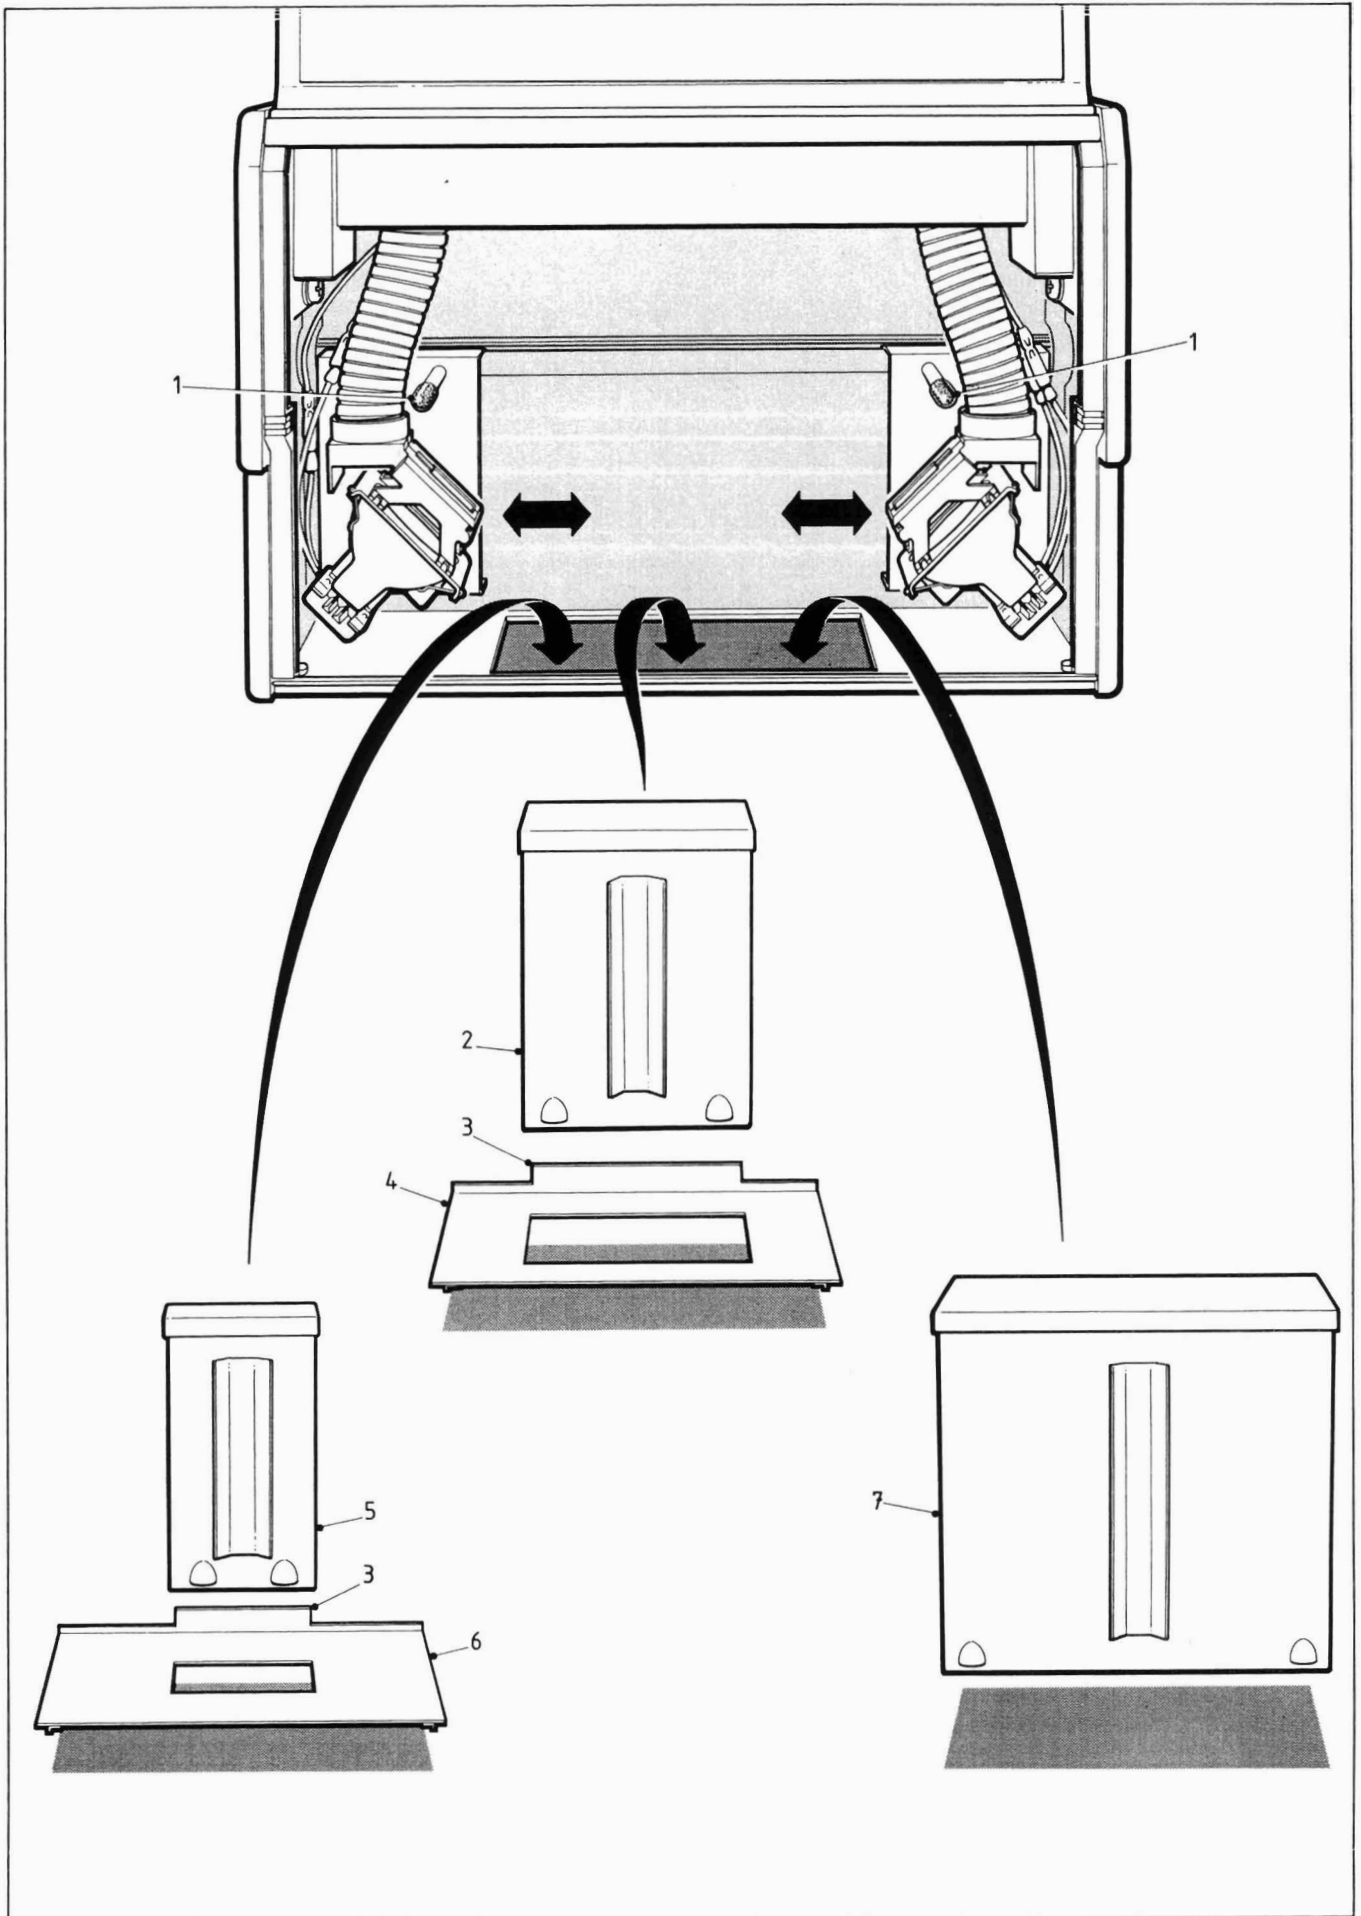

Figure 2.2
See figure 2.2.
- 3 Slide both lampholders sideways away from the light mixing box, using the posts (see figure 2.2, item 1) attached to the lampholder sliding mechanisms.